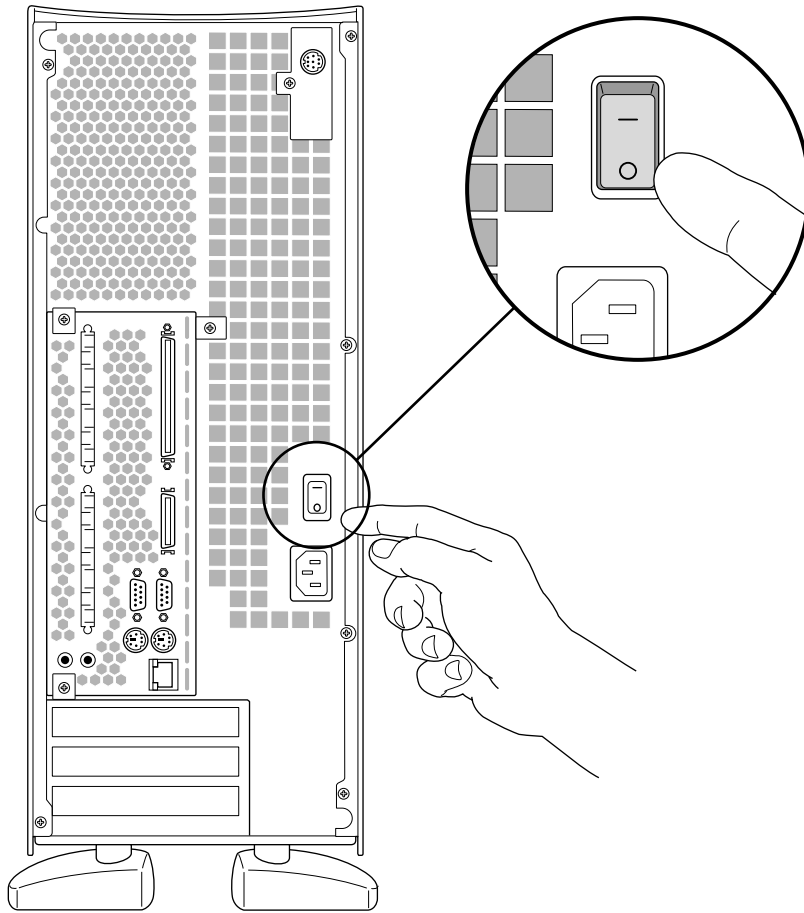

Figure 4-5 Turning Off the Master Power Switch
5. If you wish to turn off all power to the system (for example, to service it), turn off the master power switch at the rear of the server, as shown in Figure 4-5.